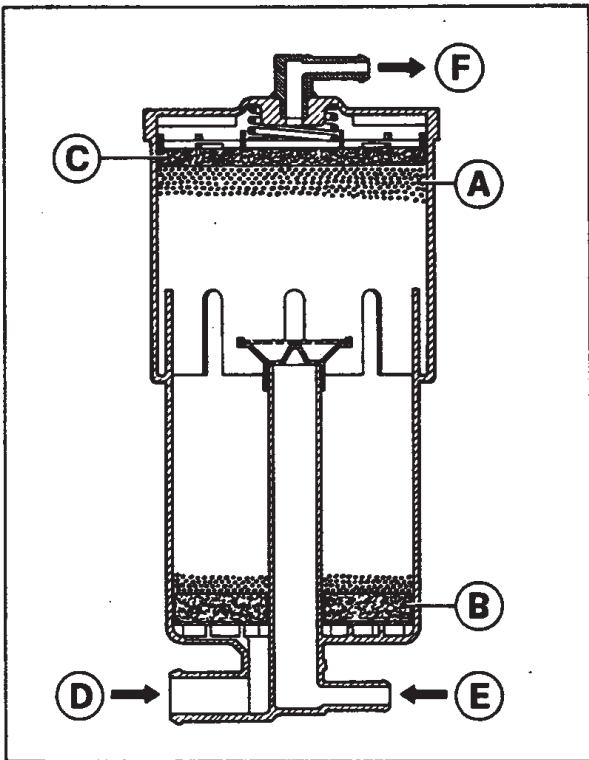

Fig. 20 - ACTIVATED CARBON TRAP
- Charcoal canister (activated carbon trap)(see fig. 20).